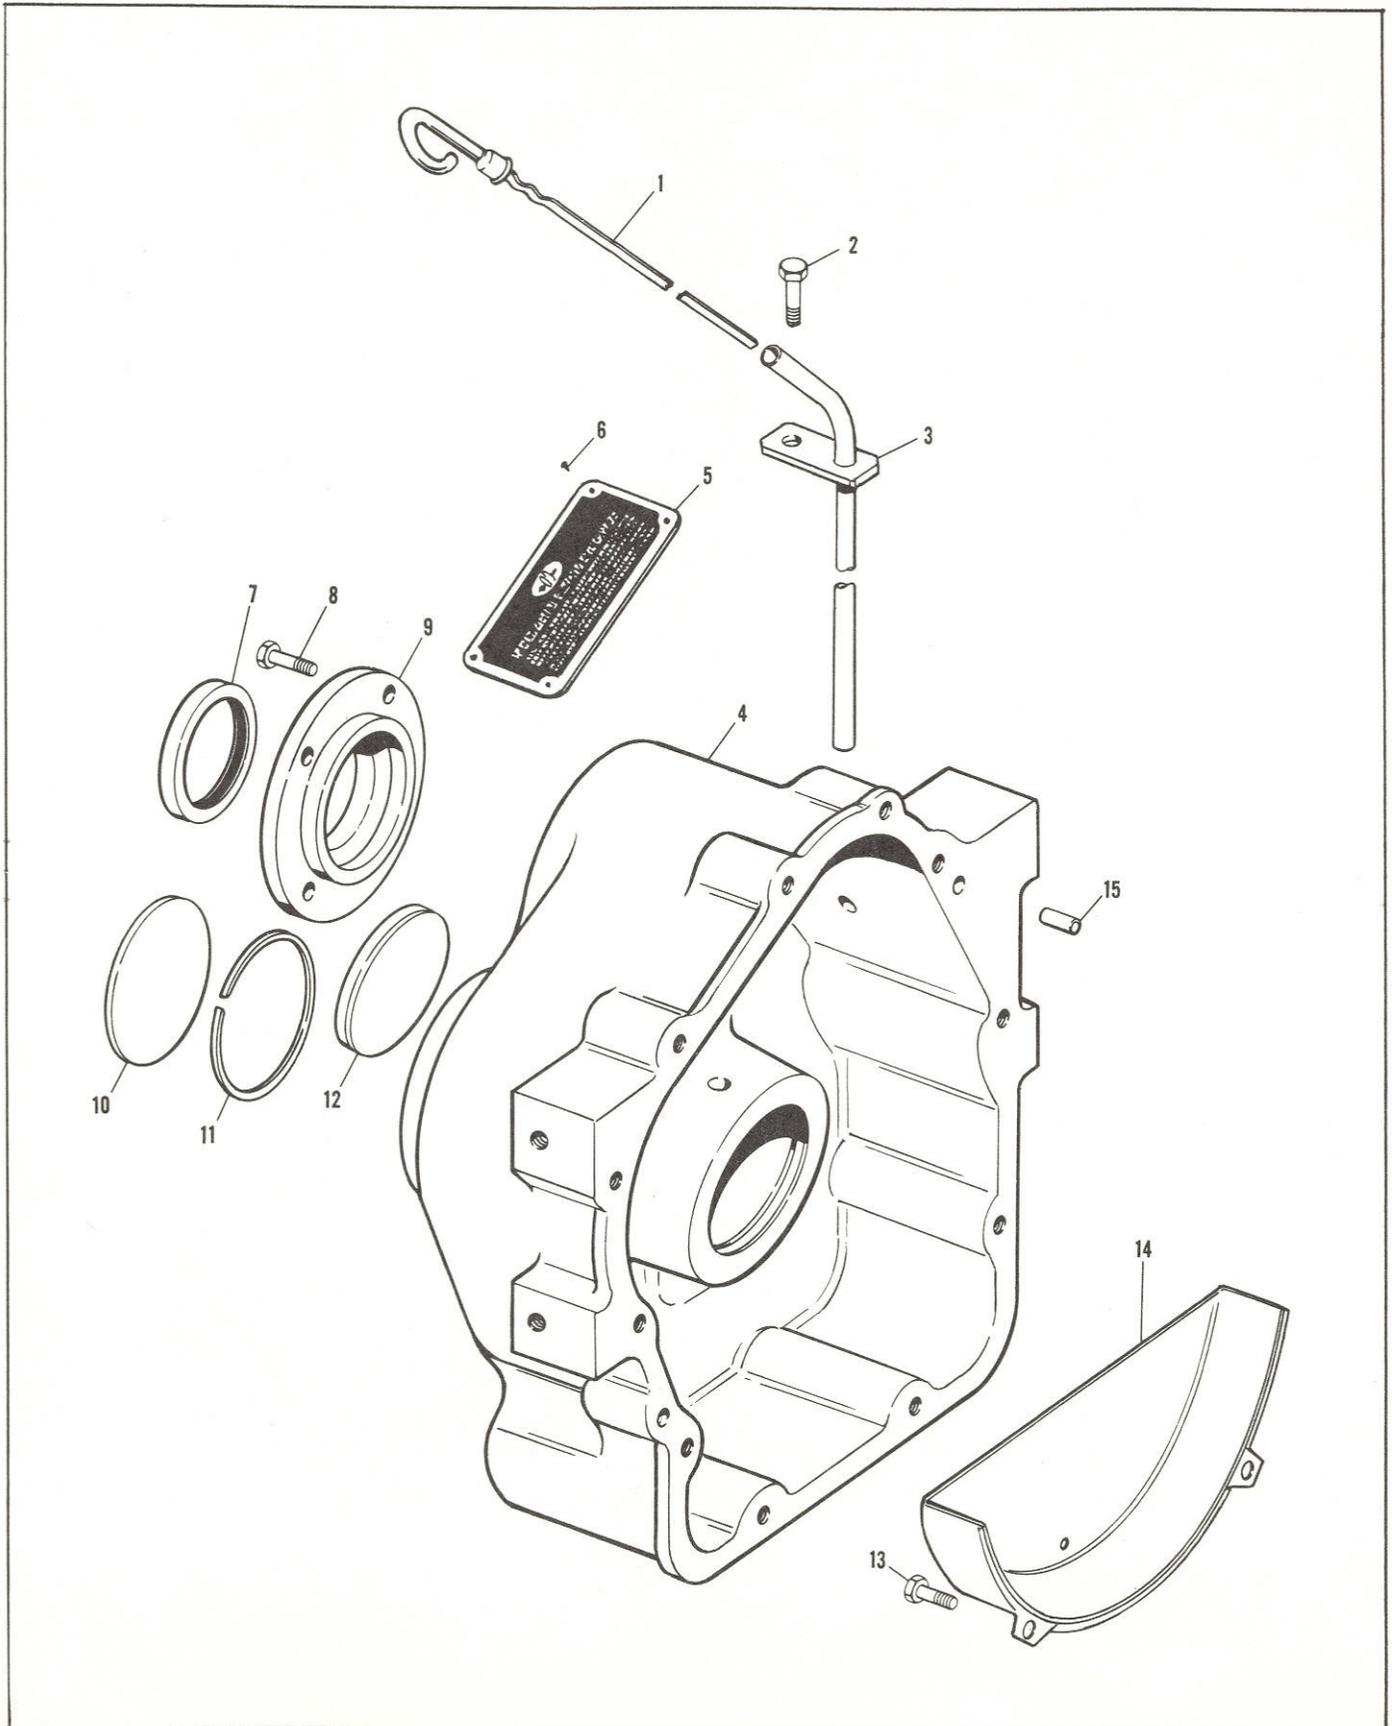

Figure 47. Main (Front) Housing and Related Parts.
B. Oil Level Gauge Tube. Install the oil level gauge tube (fig. 47, 3) into the main housing (4). Secure the tube in the housing with the hex-head cap screw (2) (5/16-18 x 5/8). Tighten the tube screw (2) to 15-17 lbs.-ft. torque. Install the oil level gauge (1) into its tube (3).
E. Name and Instruction Plate. Install and secure the name and instruction plate (fig. 47, 5) to the top of the main housing with four drive screws (6). (normally not removed).
A. Input Shaft. Check the runout between the input shaft and the O.D. surface or pilot of the front bearing retainer (fig. 47, 9). Maximum of 0.003 inch total indicator reading.